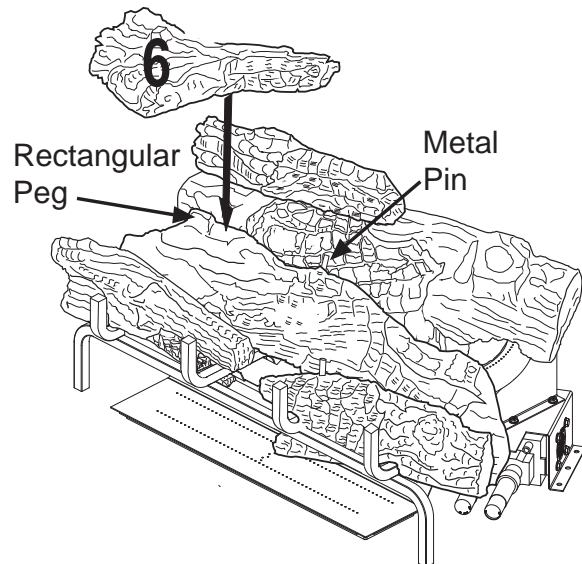

Figure 26 - Installing Log #6
- Place the left top forked log (#6) on the top of the middle log (#2). Match the rectangular projection on top of the middle log (#2) with the rectangular hole on the bottom of the left top forked log (#6). Match the metal pin on the top of the middle log (#2) with the round hole in the bottom of the left top forked log (#6). See **Figure 26**.